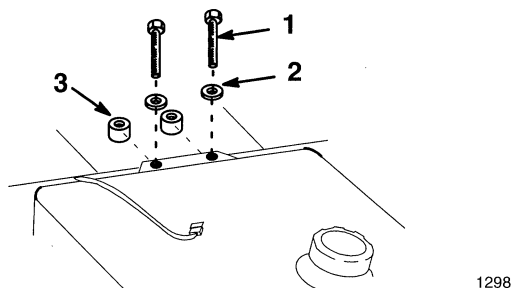

Figure 6
5. Remove screws, washers and spacers (some models only) at front of fuel tank. Lift front of fuel tank and slide forward for clearance (Fig. 6).
14. Slide fuel tank rearward into position and secure with previously removed hardware (Fig. 6).